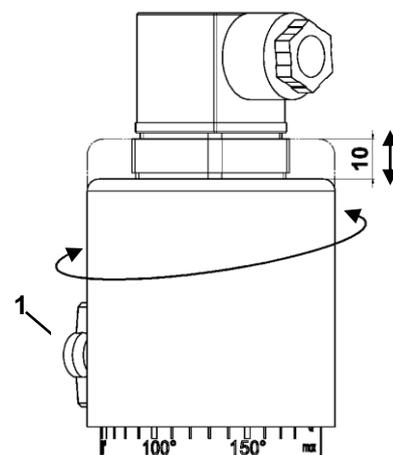

Figure 10: VD/VM/VDO setting
To set the switching point of the flow switches VD/VM/VDO (Fig. 10) the wing screw pos. 1 must be loosened. Then the switching head can be rotated. Turning anti-clockwise causes an increase in the switching point, turning clockwise causes a decrease in the switching point. The switching head requires sufficient space above so that during maximum adjustment a hub of 10 mm can be set back. Then the wing screw must be refastened.